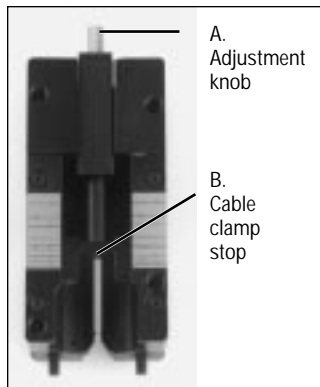

Figure 6. Back side of 10962-2000 Fixture Unit
5. If planning to terminate with flat cable, then proceed to Step 7. Otherwise, turn the fixture unit over and locate the size indexes on the two strips adhered to the bottom sides (Fig. 6).
6. Adjust the cable clamp stop (B of Fig. 6) by turning the adjustment knob (A of Fig. 6) on the rear of the unit to align the grooves in the cable clamp stop with the correct size index. Return fixture unit to shuttle block.
- A. To use the fixture unit, first remove the cable clamp stop (B of Fig. 6) from the fixture unit. This is done so that the flat cable may be inserted into the fixture unit without obstruction.